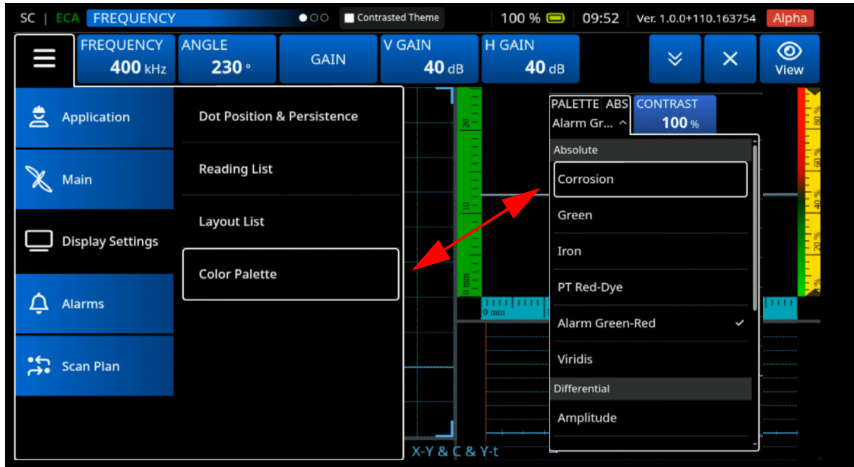

Figure 4-91 Select Corrosion Palette
19. Select **Color Palette** and then select the **Corrosion** palette (See Figure 4-91 on page 185).